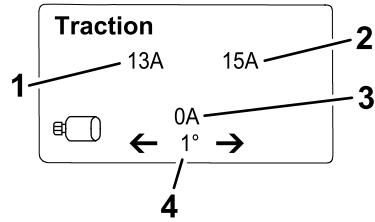

Figure 22
- Traction information screen  (Figure 22):** shows the current steering angle and the amperage allotted to each traction motor.